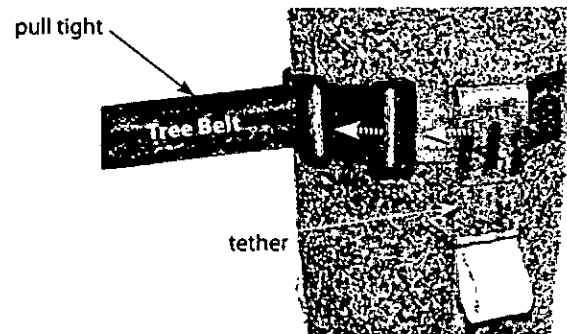

Figure 9
1. While wearing your Full Body Harness (FAS) correctly, wrap the tree belt through the loop end of the tether and around tree. Take the tail end of the tree belt and feed it through the (2) adjustment slides on tree belt. **SEE FIGURE 9.** Pull the tail of tree belt tight.
NOTE: Be sure the (2) adjustment slides are facing away from tree, preventing any obstruction. Do not position tether on or between the (2) tree belt adjustment slides. **SEE FIGURE 9.**